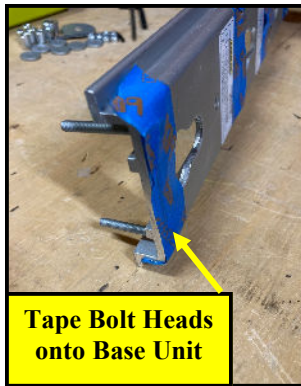
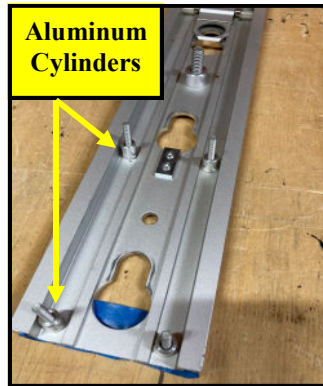

Figure 14
Figure 15
9.) Prepare Base Units for Final Mounting: Using blue painter's tape, or similar, tape all bolt heads onto the base unit with small piece of tape at each bolt. **(See Figure 14)** Then, flip base unit over onto its face, with threaded bolt ends facing up. Slide corresponding aluminum cylinders and rubber gasket, (if necessary) over all bolt ends. **(See Figure 15)**